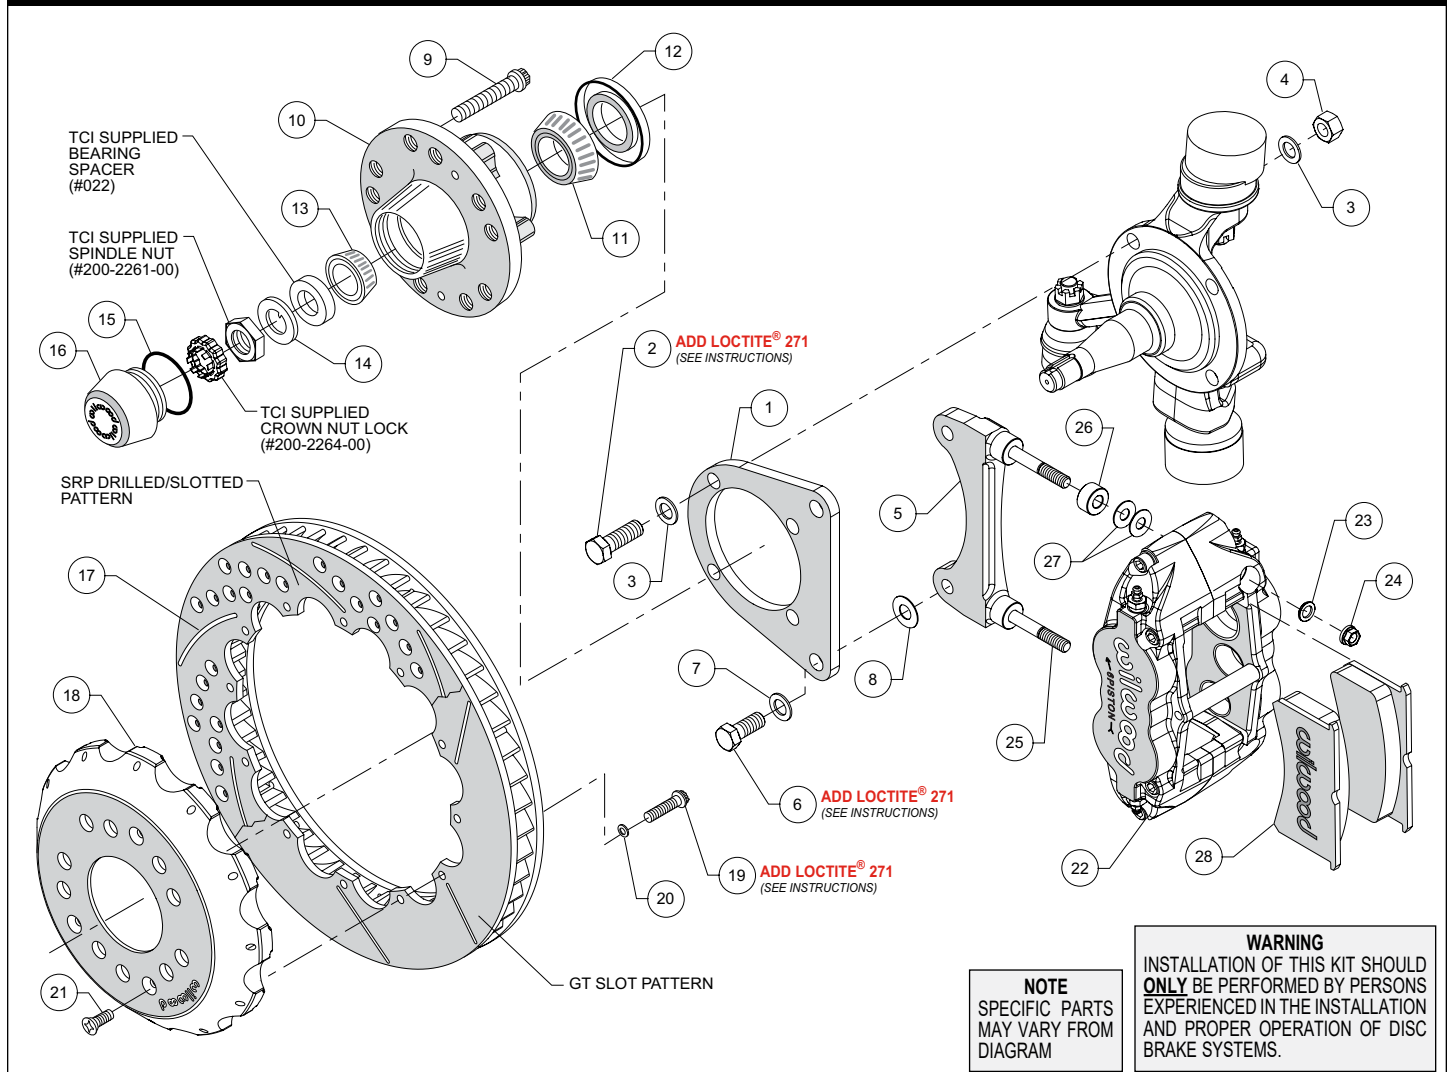
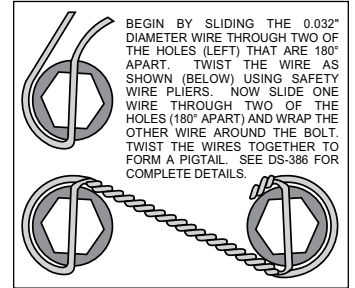

Figure 1. Typical Installation Configuration
Figure 3. Safety Wire Diagram
**NOTE:** Numbers in parenthesis refer to the parts list and Figure 1 on the preceding pages.
- Orient the flat bracket (1) as shown in Figure 1, and Photo 1, and install using bolts (2), washers (3), and nuts (4). **NOTE:** The two lower mount bolts thread directly into the steering arm. Temporarily tighten the mounting bolts. **NOTE:** The bracket must fit squarely against the spindle face. Inspect for interference from casting irregularities, machining ridges, burrs, etc. After the bracket alignment has been checked, remove the bracket mounting bolts (or nuts) one at a time and apply red *Loctite*® 271 to the threads. Torque bolts to 77 ft-lbs.
- The radial mount caliper bracket (5) should initially be installed with clean, dry threads on the mounting bolts. Orient the bracket as shown in Figure 1, and Photo 2, and install using bolts (6), and washers (7). Initially place one .029" thick shim (8) on each bolt between the flat bracket (1) and radial mount caliper bracket (5), Figure 1. Temporarily tighten the mounting bolts. Later, after the caliper alignment has been checked, the mount bolts will be secured using red *Loctite*® 271.
- Install wheel studs (9) into the hub (10), Photo 3. Torque to 77 ft-lb. **NOTE:** There are two five lug patterns in the hub (5 x 4.50 and 5 x 4.75). Ensure the correct hub stud pattern is being used to fit the wheel application.
- Pack the large inner bearing cone (11) with high temperature disc brake bearing grease (available from your local auto parts store) and install into the backside of the hub (10), Photo 4.
- Install the grease seal (12) by pressing into the backside of the hub (10), flush with the end of the hub, Photo 4.
- Pack the small outer bearing cone (13) with high temperature disc brake bearing grease and install into hub (10), Photo 5. Slide the hub assembly onto the spindle. Install TCI supplied bearing spacer (#022). Secure using spindle washer (14) and TCI supplied spindle nut (#200-2261-00). Bearing adjustment: Tighten the nut while turning the hub. When there is a slight bind on the bearings, they are seated correctly. Back the nut off about 1/6 to 1/4 of a turn, or sufficiently to allow .001" to .007" end play. **WARNING:** Failure to back off adjusting nut could cause bearing to run hot and be damaged, which could cause the wheel to lock or come off. Install TCI supplied crown nut lock (#200-2264-00) and a new cotter pin (not included).
- Orient the rotor (17) and the hat (18) as shown in Figure 1 and Photo 7. Attach rotor to hat using bolts (19) and washers (20). Apply red *Loctite*® 271 to the bolt threads and torque to 155 in-lb using a criss-cross pattern. For an added measure of security, the bolts may be safety wired using standard 0.032 inch diameter stainless steel safety wire as shown in Figure 3. Please refer to Wilwood's data sheet DS-386 (available at [www.wilwood.com/Pdf/DataSheets/ds386.pdf](http://www.wilwood.com/Pdf/DataSheets/ds386.pdf)) for complete safety wire installation instructions.
- Slide the hat/rotor (17/18) onto the hub (10) taking care to align the small countersunk holes in the hat with the small threaded holes in the hub. **NOTE:** The hat must fit flush against the hub face or excessive rotor run out may result. Install three flat head screws (21) through the small holes in the hat (18), Photo 8, and torque to 85 in-lb.
- NOTE:** This kit contains distinct right and left hand calipers that must be mounted in a specific direction, as described below. Initially place two .035" thick shims (26) on each stud (25) between the caliper and the bracket, as shown in Figure 1 and Photo 9. Mount the caliper (22) onto the bracket (5) using lock nuts (24) and washers (23), Figure 1. Ensure that the caliper is mounted so the largest pistons are at the rotor exit end of the caliper, in relation to the direction of rotor rotation. Temporarily tighten the lock nuts and view the rotor through the top opening of the caliper. The rotor should be centered in the caliper, Photo 10. If not, adjust by adding or subtracting shims (8) between the flat bracket and the radial mount bracket. Always use the same amount of shims on each of the two mounting bolts. Once the caliper alignment is correct, remove the radial mount bracket bolts one at a time, apply red *Loctite*® 271 to the threads, and torque to 77 ft-lb.